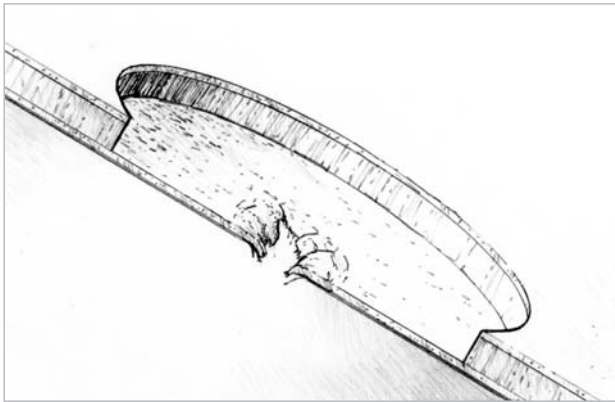

Figure 5-15 Cut back the outer skin and core several inches from the hole through the inner skin.
2. Cut back the outer skin and core several inches from the edge of the hole through the inner skin to provide an area wide enough to grind a 12-to-1 bevel around the edge of the inner skin (*Figure 5-15*). Use a router with a straight fluted bit set to the depth of the outer skin and core only, to avoid cutting the inner skin. Cut the core and outer skin back 12 times the thickness of the inner skin plus about 1" (25mm) to leave enough room to grind the inner skin bevel. For example, if the inner skin is 1/4" (6mm)-thick, the bevel will extend 3" (7.5cm) from the edge of the hole.